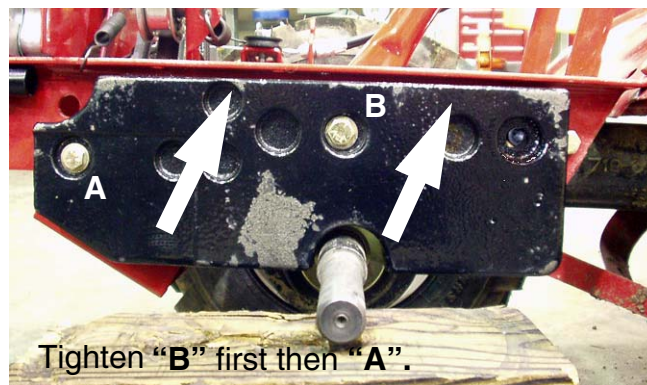

FIGURE 5
17. While pushing the frame weight up and to the rear on the frame, tighten the 5/16”-18 hardware (“B”) securely. See Figure 5.